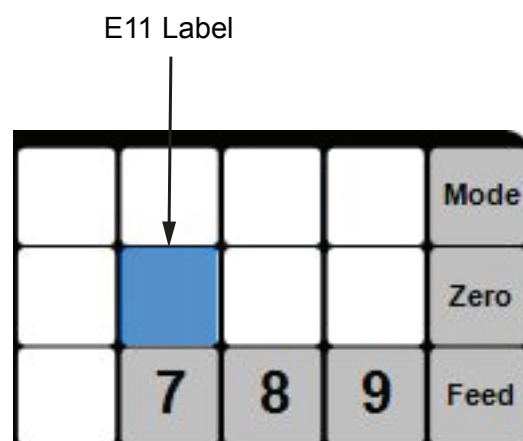

Figure 31-2
17. Double click on the applicable preset key. The Edit Preset Key - SlpNet.mdb dialog box will display. See Figures 31-2 and 32-1.